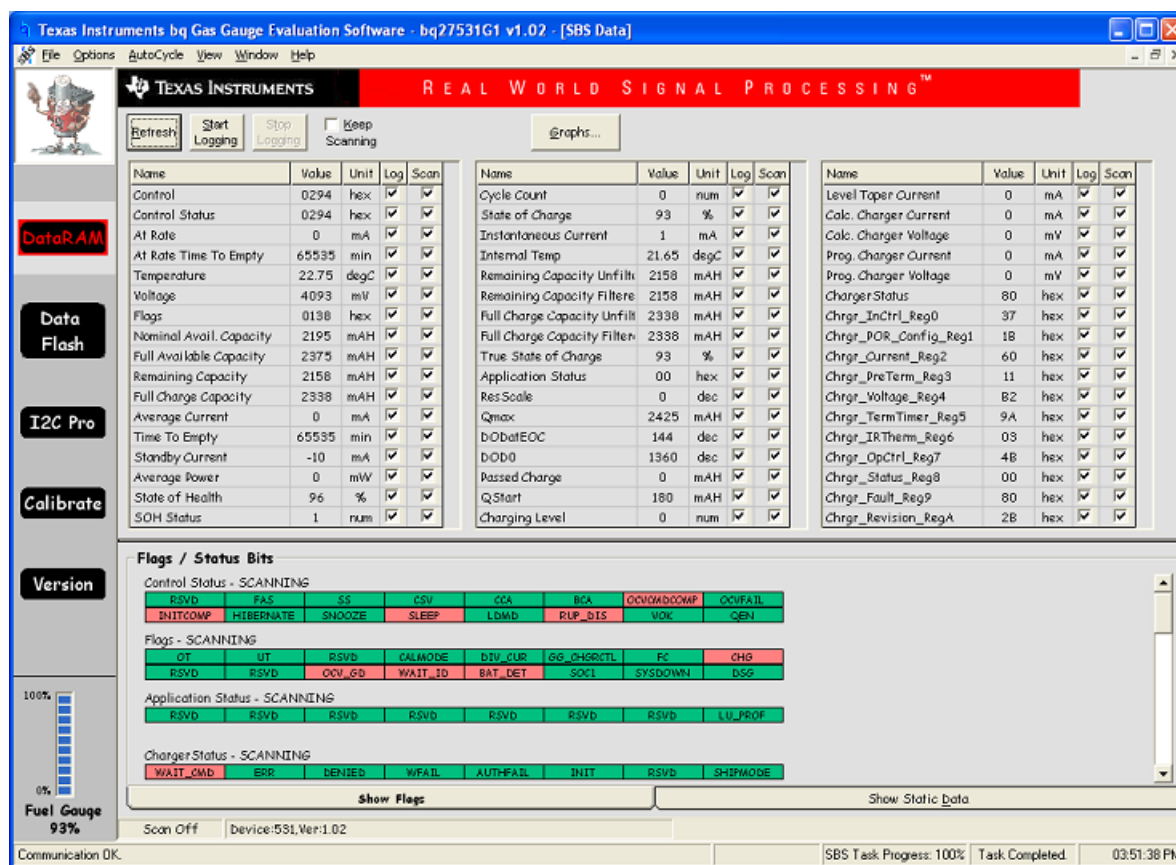

Figure 9. DataRAM Screen
9. Turn on the computer. Open the bq27531 evaluation software. The main window of the software is shown in Figure 9 (DataRAM Screen).
Run bq27531 EVSW from the Start | Programs | Texas Instruments | bq Evaluation Software menu sequence. The DataRAM screen (Figure 9) appears. Data begins to appear once the <Refresh> (single time scan) button is clicked, or when the <Keep Scanning> check box is checked. To disable the scan feature, deselect <Keep Scanning>.
This screen (Figure 9) shows the RAM data set. Additional Flag and Status data can be viewed at the bottom of the DataRAM screen.